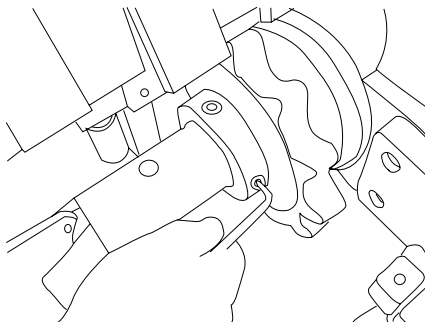

Figure 18
2. Using a 3/16" Allen key, loosen the 2 set screws in the retaining collar and slide the collar off the shaft [Figure 18].